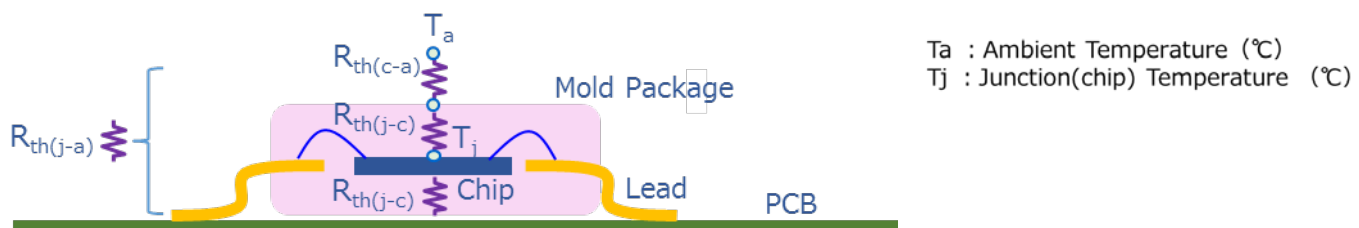

Figure 2.2. Thermal resistance model of an LDO regulator
The resistance to heat flow is called thermal resistance, which includes the resistance of the molded package and the environment in which an LDO regulator is placed. Figure 2.2 shows a thermal resistance model of an integrated circuit (IC), showing thermal resistances in an IC.
The model shown in Figure 2.2 consists of two thermal resistances: